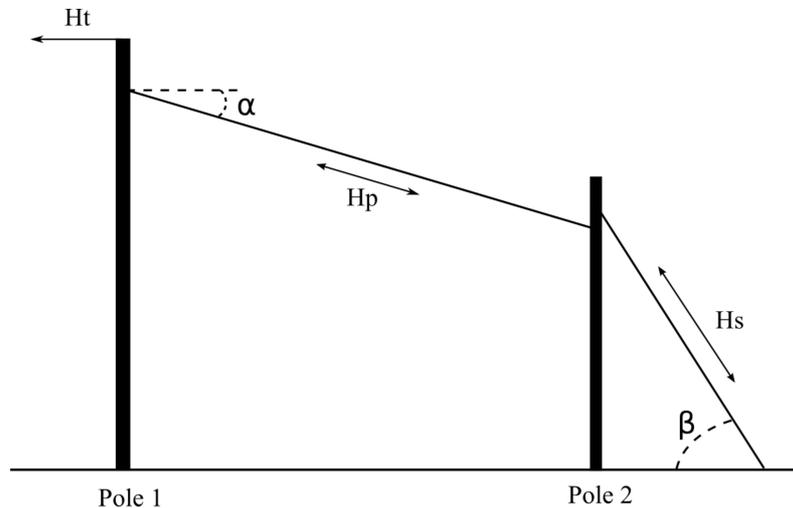

Figure 1: 2 pole configuration
1. set up the tipload for the main pole (pole 1 in figure 1) as usual
- angle to ground – use the reclining angle of the stay wire – α in figure 1